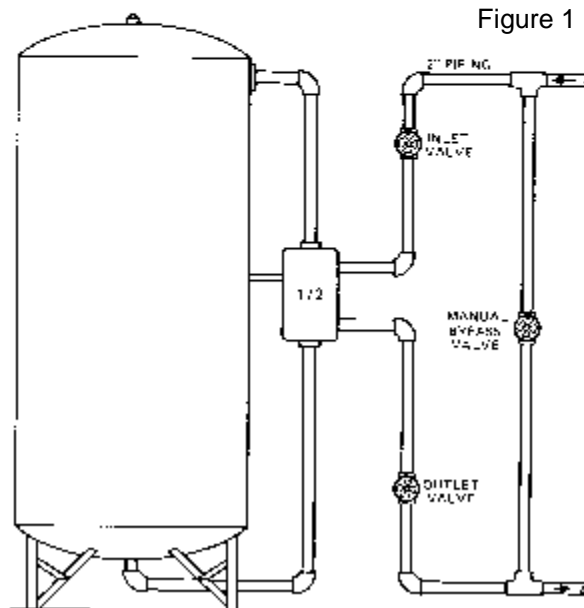

Figure 2
*Inlet and Outlet piping (see figure 2)*
All inlet and outlet piping should be anchored or supported adequately to avoid placing stress on the control system. Follow good plumbing practises and conform to any local codes. Figure 2 illustrates a suggested hookup involving the use of separate inlet, outlet and by-pass valves. This arrangement provides shut-offs and emergency bypass of unconditioned water in the event the unit must be serviced.